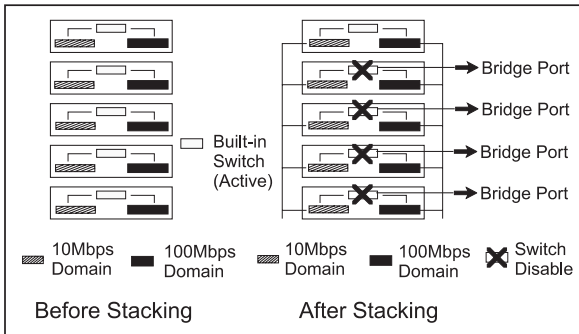

Figure 3-4 Auto Data looping prevention in ALH-316ds/324ds.
- The built-in switches in slave hubs will be disabled automatically to avoid data looping from multiple inter-connections of hubs, as shown in Figure 3-4.